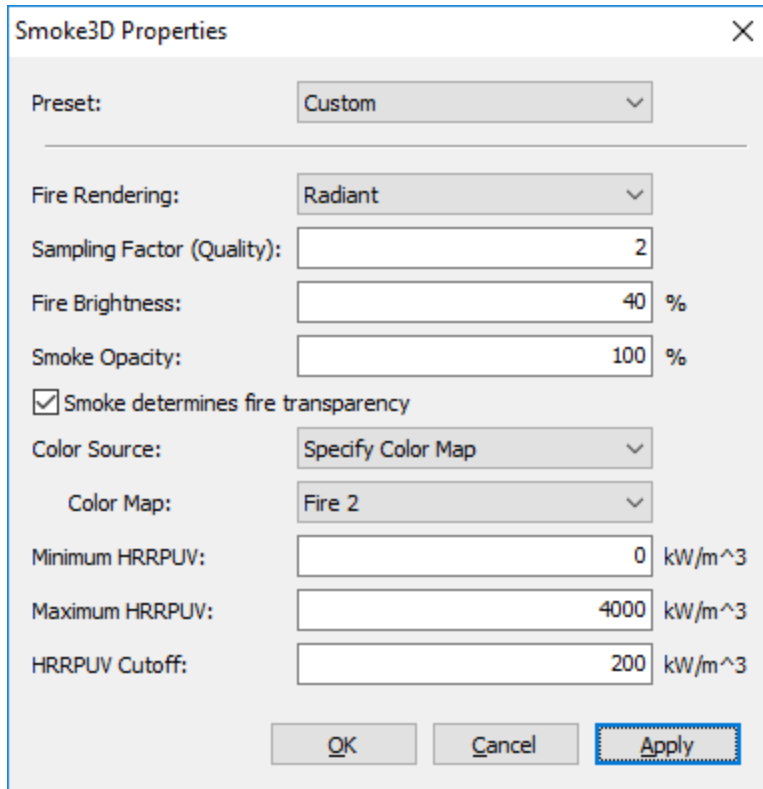

Figure 6:9: Smoke3D Properties dialog
- **Preset:** Specifies a pre-defined set of properties to be applied to the values in the dialog. The following presets are available and are demonstrated in Figure 6:10: